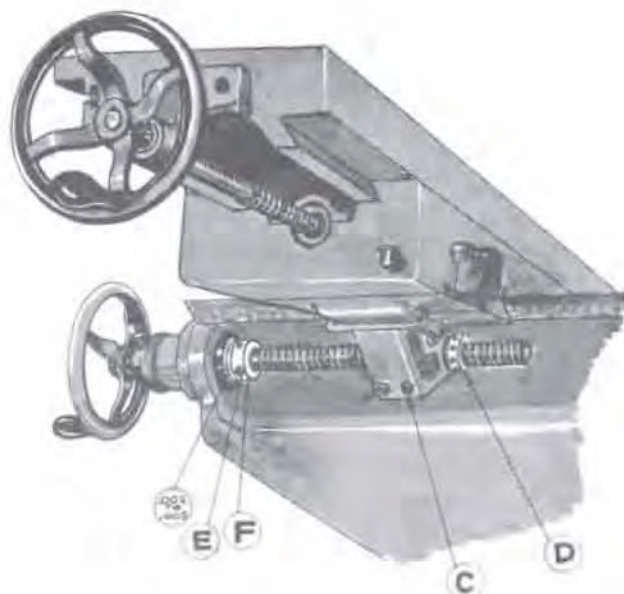

FIG. 9—Saddle
**SADDLE** (See Fig. 9): The Cross Feed Screw is adjusted by means of an adjustable nut at the right hand end of the Saddle. To adjust, loosen set screw "C" and adjust nut "D" in either direction to remove backlash. After completing adjustment tighten set screw "C". To remove end play in screw loosen set screw "E" and adjust nut "F" until end play is from .002 to .005. After completing adjustment tighten set screw "E".